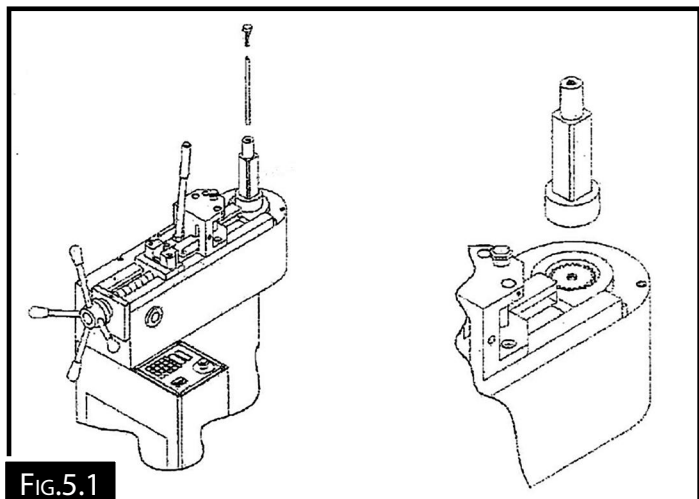

Fig.5.1
2. Insert the hex. key supplied with the machine into the outlet arbor and unscrew the bolt (M14×45) holding the arbor. (Fig.5.1)